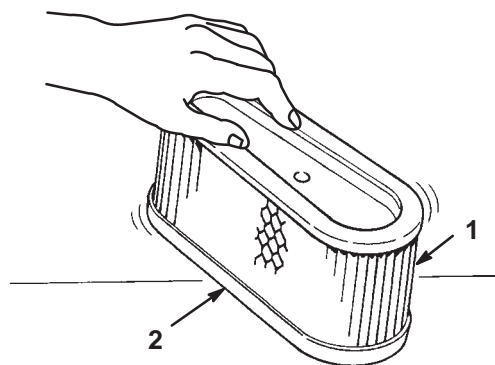

Figure 26
- A. Lightly tap the element on a flat surface to remove dust and dirt (Fig. 26).